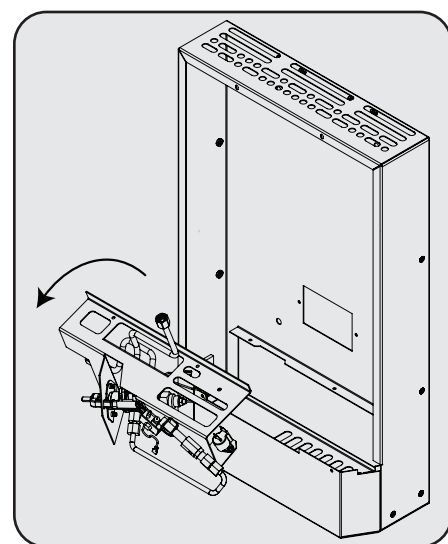

Figure 12
4. Lift up on the control bracket assembly to remove it from the heater. See Figure 12.